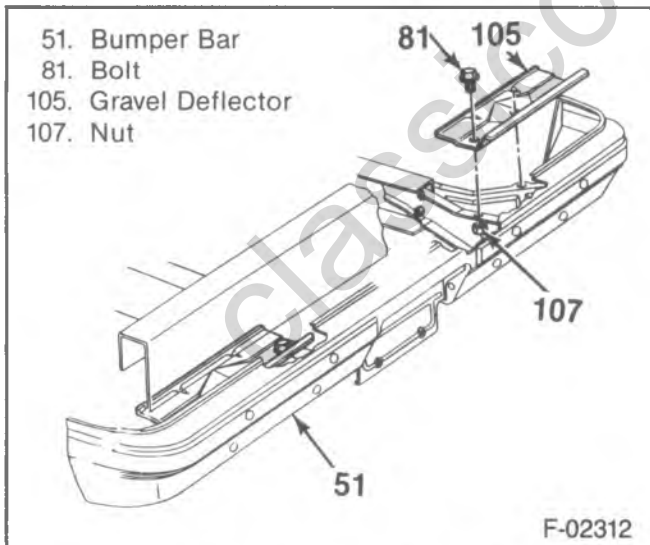

Figure 13—Rear Bumper Gravel Deflector
1. Brace nuts (93), spring washers (94), and washers (95) at the bumper.
2. Bracket nuts (99), spring washers (98), and washers at the bumper.
4. Bumper bolts (106).
5. Gravel deflector nuts (107) and bolts (81) (where used) (figure 13).
6. Gravel deflectors (105).
7. Brace to frame nuts (100), spring washers (102), and bolts (104).
8. Braces (92).
9. Bracket to frame rail nuts (101), spring washers (102) and bolts (103).
10. Brackets (96).